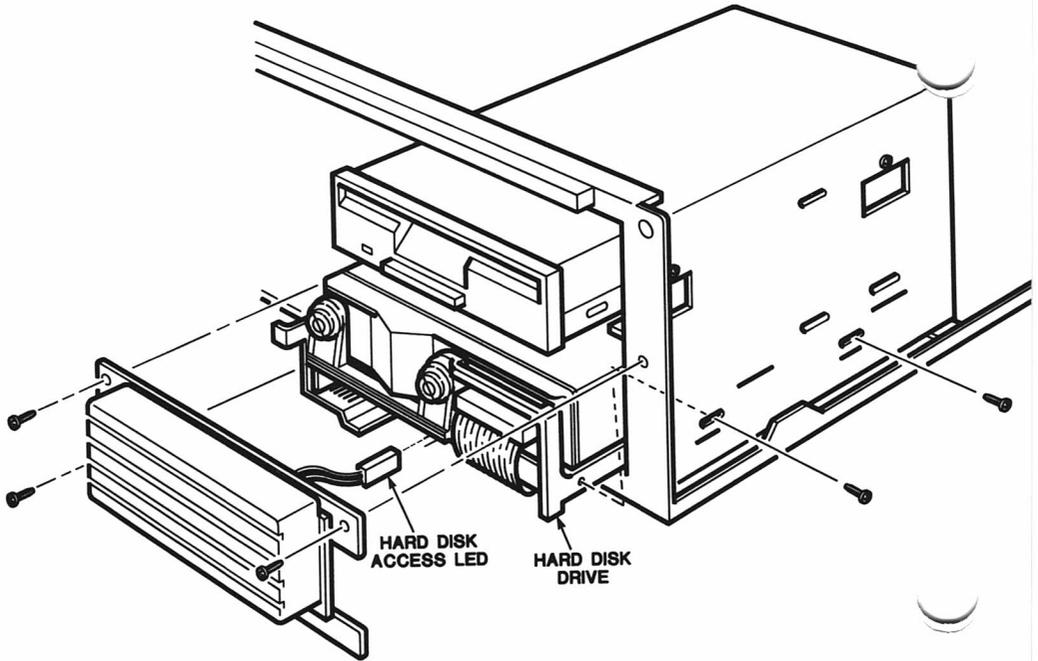

Figure 4-8. Hard Disk Drive Removal
5. Remove the two screws that secure the hard disk drive to the disk drive housing, as shown in Figure 4-8.